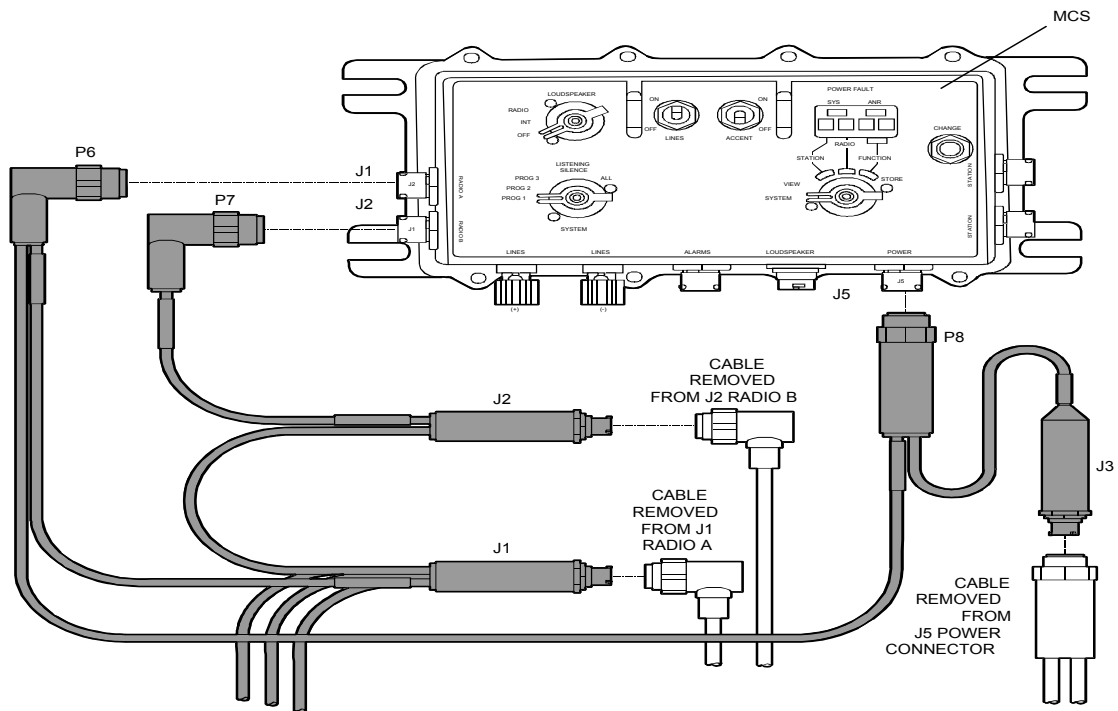

Figure 2-47. M1A1/M1A2 Combined VIS System Cable Connections to MCS.
- b. Remove the J1 (Radio A) and J2 (Radio B) cables from the MCS. (See Figure 2-47)
- c. Connect J1 (Radio A) cable to the J1 segment of the VIS System Cable. (See Figure 2-47)
- d. Connect J2 (Radio B) cable to the J2 segment of the VIS System Cable. (See Figure 2-47)
- e. Connect VIS System Cable segment P7 to J1 (Radio B) on the MCS. (See Figure 2-47)
- f. Connect VIS System Cable segment P6 to J2 (Radio A) on the MCS. (See Figure 2-47)